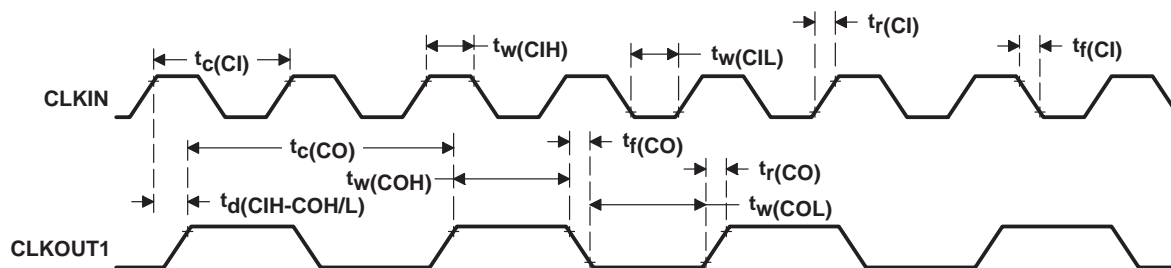

Figure 13. External Divide-by-Two Clock Timing
### switching characteristics over recommended operating conditions [ $H = 0.5 t_{c(CO)}$ ] ('320C5x only) (see Figure 13)
### switching characteristics over recommended operating conditions [ $H = 0.5 t_{c(CO)}$ ] ('320LC5x only) (see Figure 13)
**timing requirements over recommended ranges of supply voltage and operating ambient-air temperature ('320C5x only) (see Figure 13)**
**timing requirements over recommended ranges of supply voltage and operating ambient-air temperature ('320LC5x only) (see Figure 13)**